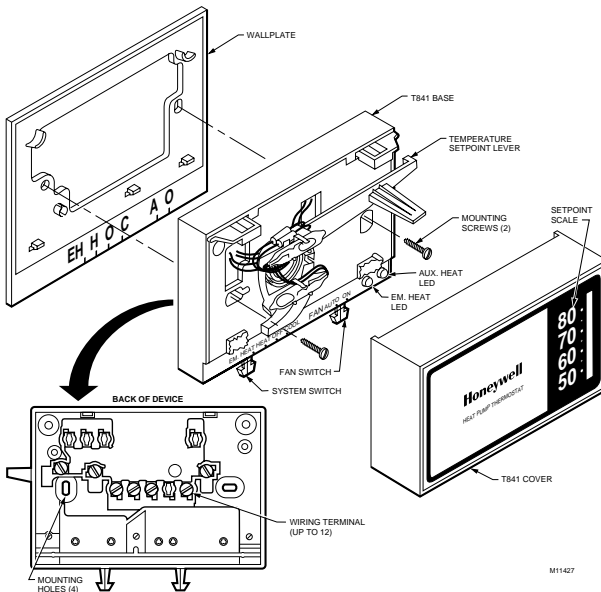

Fig. 1. Mounting thermostat to wallplate (T841A model shown).
The side of the thermostat features raised numbers for easy temperature setting by touch or sight. An audible click is heard with indents every two degrees as the temperature setpoint lever is moved. The thermostat wallplate features raised letters to aid in setting System switch and Fan switch settings. See Fig. 1.
6. Use two of the four screws provided to loosely secure the thermostat and the wallplate to the wall or outlet box through the two middle mounting holes. See Fig. 1.
The enlarged, raised numbers on the right edge of the thermostat can be used for easy temperature setting by touch or sight while moving the temperature setpoint lever to the desired temperature setting. The large 5, 6, 7 and 8 refer to 50°F (10°C), 60°F (16°C), 70°F (21°C) and 80°F (27°C), respectively. A click is heard with indents every two degrees as the temperature setpoint lever is moved. See Fig. 1.